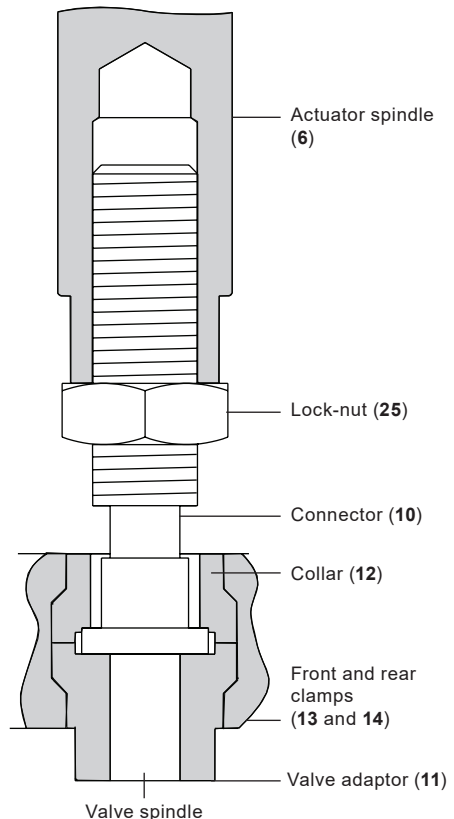
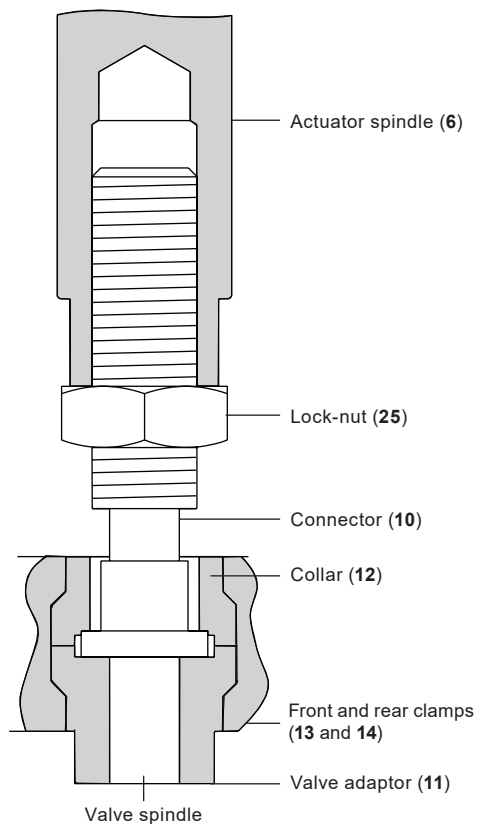

Fig. 6
Fig. 7
- Loosen and remove the clamp nuts and screws (26 and 27, see Figure 7) and remove the valve adaptor (11).
- Using two spanners whilst holding the actuator spindle (6) loosen the adaptor lock-nut (25).
- With the valve plug remaining on its seat adjust the valve connector (10) until it presses tightly against the valve adaptor (11). Tighten the lock-nut (25). See Figure 6 for correct installation.
To adjust the set point refer to Figure 7 and proceed as follows:
- With the valve plug remaining on its seat adjust the valve adaptor (**11**) until it presses tightly against the connector (**10**). See Figure 7 for correct installation.